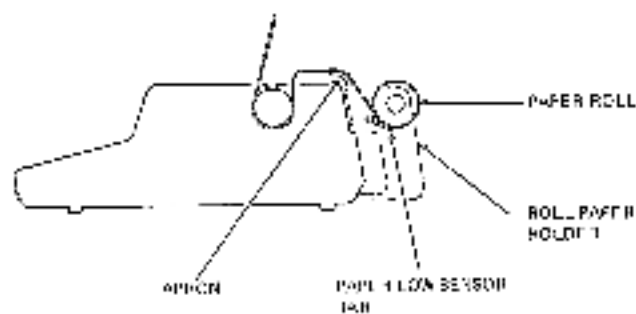

Figure 2-6 Roll Paper Path
3. Reinstall the mandrel on the roll paper holder assembly so the paper feeds from the bottom of the roll (Figure 2-6).
5. Feed the paper over the roll holder apron and under the platen from the back. Lift the bail bar and advance the paper, using the paper advance knob, until the top edge extends back over the apron (Figure 2-6). Make sure the paper does not pass under the paper low sensor (Figure 2-6).